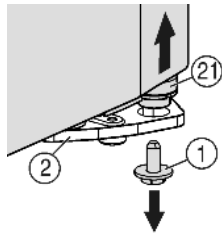
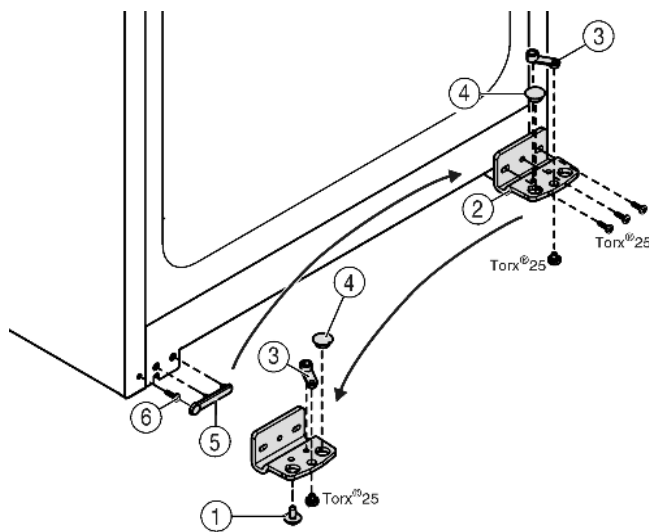

Fig. 4
Fig. 5
- ▷ The bearing pin *Fig. 4 (21)* should come out of the turn hinge *Fig. 5 (2)*.
- ▶ If the bearing bolt *Fig. 4 (21)* doesn't undo press it out from underneath.
- ▶ Unscrew the turn hinge *Fig. 5 (2)*.
- ▶ Unscrew the bearing element, *Fig. 5 (3)* transfer it to the opposite location hole of the turn hinge and screw it firmly into place.
- ▶ Take the stopper *Fig. 5 (4)* out of the turn hinge and transfer it to the receiving hole on the opposite side of the turn hinge.
- ▶ Carefully lift off the cover *Fig. 5 (5)* on the handle side.
- ▶ Undo the screw *Fig. 5 (6)* and transfer it to the opposite side.
- ▶ Put the cover *Fig. 5 (5)* back on.
- ▶ Screw the turn hinge *Fig. 5 (2)* firmly into place on the new hinge side (**with 4 Nm**), possibly using a power screwdriver.
- ▶ Insert the securing screw *Fig. 4 (1)* at the bottom into the bearing pin and tighten it (**with 4 Nm**).